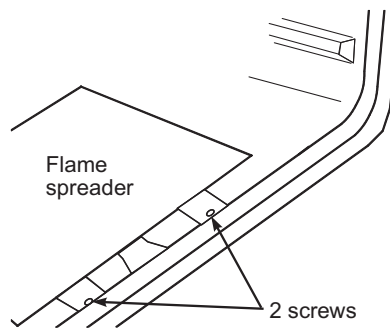

Figure 14
3. Check the burner flame by removing the flame spreader (refer to Figure 14). To remove the flame spreader, remove 2 screws from the front tabs of the flame spreader. Lift front of spreader and pull forward to remove tabs from rear of oven.